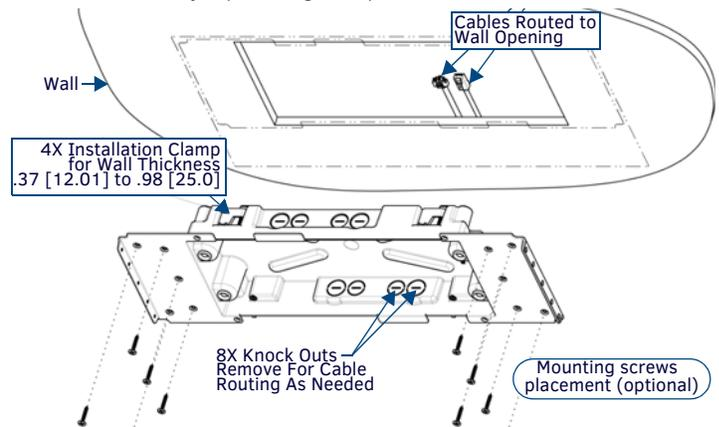

FIG. 4 MXD-2001-PAN BACKBOX INSTALLATION (LANDSCAPE)
- Thread the incoming power and Ethernet wiring from their terminal locations through the surface opening (see FIG. 4 on reverse). Leave enough slack in the wiring to accommodate any re-positioning of the panel.
- For additional strength, #4 mounting screws (not included) may be secured through the mounting holes located at the left and right sides of the panel (FIG. 4). In order to prevent damage to the touch panel, make sure that these are flush with the Backbox.